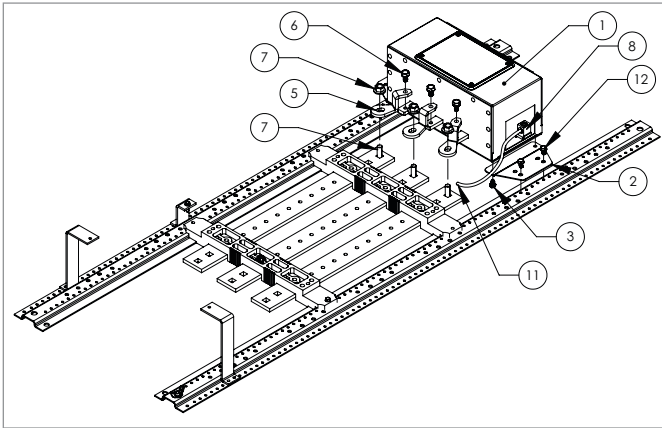

Figure 5: P2 Panel TPS4 Install
Step 7) P2 Panel: Fasten unit to the main bus using the P2 Panel Carriage Bolt and Nut with captive washer (Item 7) provided w/ P2 Panel. Do not Torque at this time. Attach the Mounting Plates (item 2) to the base rail using 8-32 hex thread forming screws (item 12) provided as shown in Figure 5.
Step 8) P3 Panel: Fasten unit to the main bus using the P3 Panel Bus Bolt (Item 10) provided w/ P3 Panel. Do not Torque at this time Attach the P3 Riser Brackets (item 9) to the base rail using 8-32 hex Thread Forming screws (item 12) provided as shown in Figure #6.
Step 9) If present, connect TPS4 Neutral Connection Lug (item 8) to Panel Neutral using 8 AWG minimum wire (item 11). For best SPD performance, trim wire as required to provide shortest possible route between TPS4 Neutral connection and Panel Neutral Connection. Route wire as straight as possible and use gentle radius on any bends. Do not kink wire. Prevent wire from encroaching breaker locations.